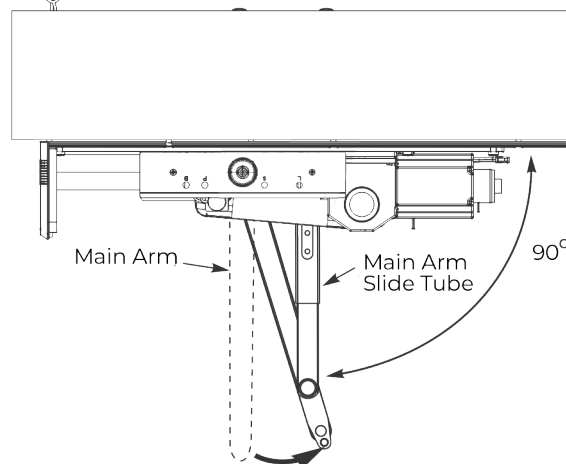

Figure 23 View from ceiling looking downward
- With door closed, rotate main arm away from hinge until adjusting tube is perpendicular (90 degrees) with door. (Figure 23)